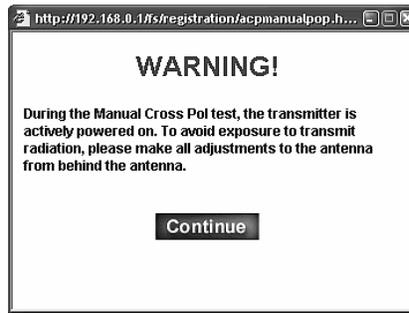

Figure 59: Manual cross-pol warning message
16. Click **Continue** on the Warning pop-up shown in Figure 59.